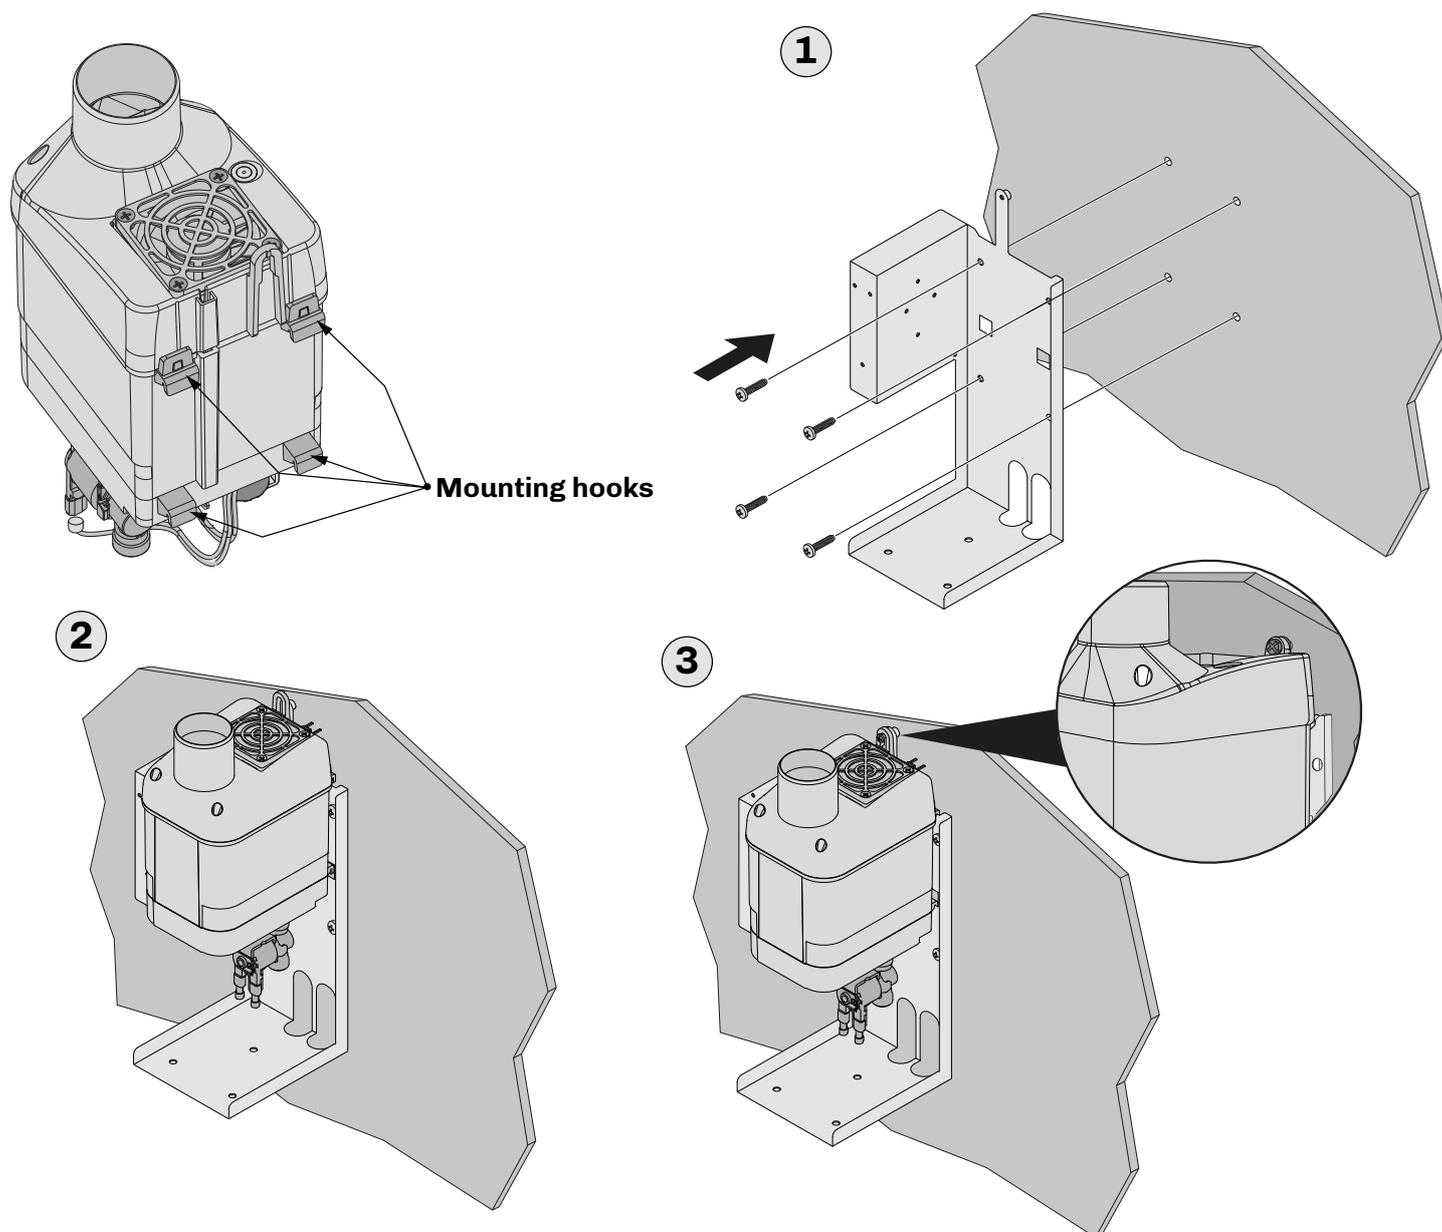

Fig. 10. Instructions for mounting the box on a wall
- Secure the box to the wall following the instructions given in the picture “**FIG. 10. INSTRUCTIONS FOR MOUNTING THE BOX ON A WALL**” ON PAGE 24 and the dimensions of the holes and box given in the subsection “**4.3.2 DIMENSIONS OF MISTRAL WITH BOX**” ON PAGE 18 **(1)**;